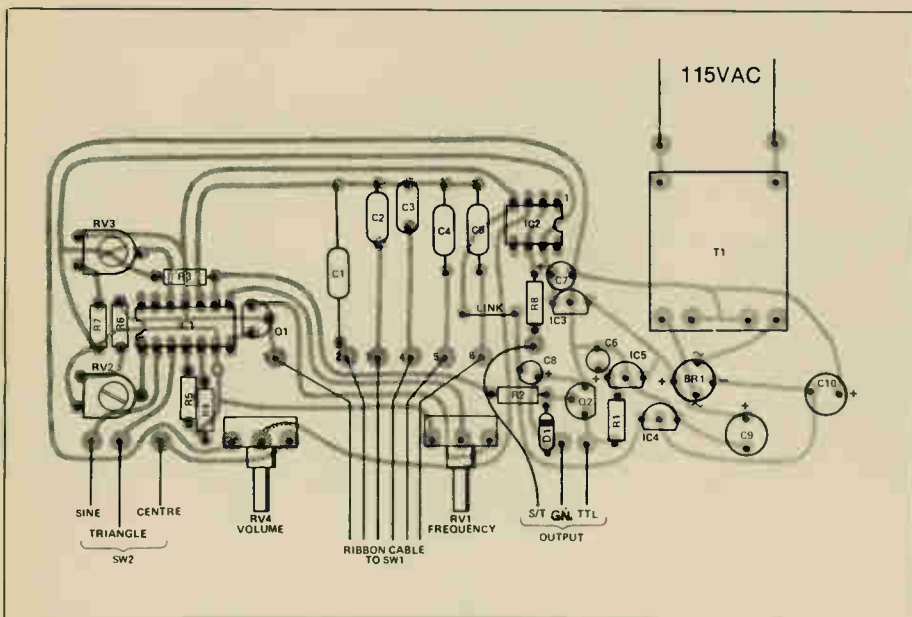

Fig. 2 The PCB overlay. Note that IC1 and IC2 should not be inserted until testing has commenced.
As all of the components are mounted on the single PCB, construction is extremely simple (Fig. 2). The two integrated circuit sockets should be mounted first as these aid in locating the position of the other components. Do not insert the ICs at this stage. Note that the transformer is a PC mounting type. If a suitable transformer cannot be found, a standard open frame type such as one from the Hammond 166 series can be wired to the PC. A suitable substitute is the 166 F30 available from Electro Sonic, 1100 Gordon Baker Rd, Willowdale Ont., M2H 3B3, (416) 494-1555. The two potentiometers have their leads bent to lower their bodies towards the board and ensure that the mounting nuts are beyond the board edge (Fig. 3).